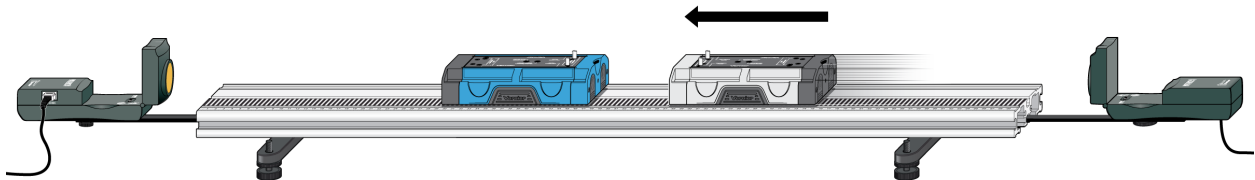

Figure 1
3. Set the Motion Detector sensitivity switches to Track. Place a Motion Detector at each end of the track, allowing for the 0.15 m minimum distance between detector and cart, as shown in Figure 1. Connect the Motion Detectors to the digital (DIG) ports of the LabQuest and choose New from the File menu.